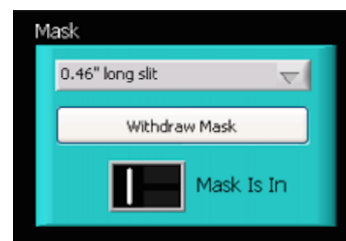

Figure 1: Goodman Slit Mask selection window
- Make sure the slit is IN (Fig.1) and move the camera arm to the IN position (Fig.3 right and 4).
- Right click on anywhere on the display window to bring up the pop-up menu. Select the “Show Cross-Hair” option (Fig. 5). Now unselect the “Lock Cross-Hair” option and left click with the mouse in the exact position you want your object to fall on the slit. The crosshair will show up on that position (Fig. 5, right). The crosshair coordinates are shown in the upper left corner of the GACAM display window (Fig. 6, left), first in GACAM pixels (0.165 arcsec/pixel), and in Goodman (GHTS) pixels (0.15 arcsec/pixel). If you are happy with that position, right click again and select the “Lock Cross-Hair” option in the pop-up menu. *The crosshair will now stay at your selected location and will define the slit position.* You can verify this by moving the slit mask out of the beam (you could now take a moment to look at your target field and check that it is correct, see IV below), and then back in, using the Slit Mask control box in the Goodman GUI (Fig.1). Sometimes the slit will not position exactly in the same place the first time it comes back in. Adjust the crosshair position (unlock/lock) and repeat the slit in/out movement if necessary. Moving the slit mask in or out takes ~15s.
- Now that you have the slit position defined with the crosshair, bring up the pop-up menu in GACAM and unselect the “Lock Slit-box” option (Fig. 6, left). Move the slit mask out of the beam in the Goodman Slit Mask control box (Fig. 1). You will now see your target field as shown in Figure 6, center. Remember that the GACAM FOV is 1.8 x 1.4 arcmin. For a position angle (PA) = 0 deg, the orientation is North up and East to the left, other orientations are as shown here: